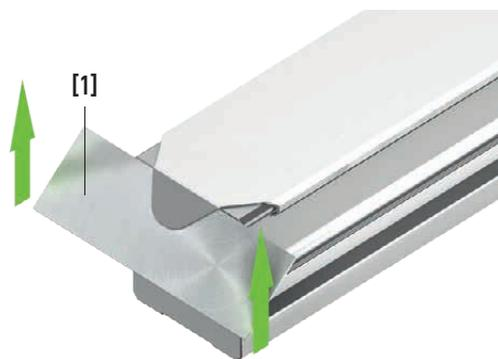

Fig. 5.39 Removal of cover strip
- ▶ Lift the cover strip on the front side of the profile rail using the disassembly tool [1] (see Fig. 5.39).